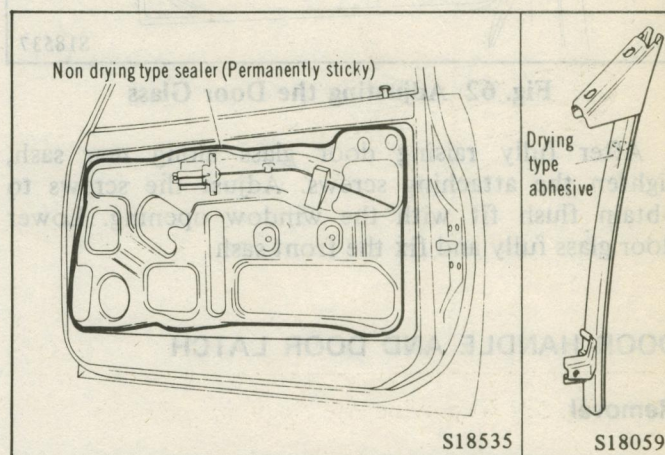

Fig. 60 Application of the Adhesive
(1) Apply a sufficient amount of grease to all running and sliding parts such as the regulator pinion, driven gear rollers and glass holder pin.
(2) Use adhesive to bond the waterproof film and the front door sash. Apply the adhesive to the bonding area as illustrated. (Fig. 60)